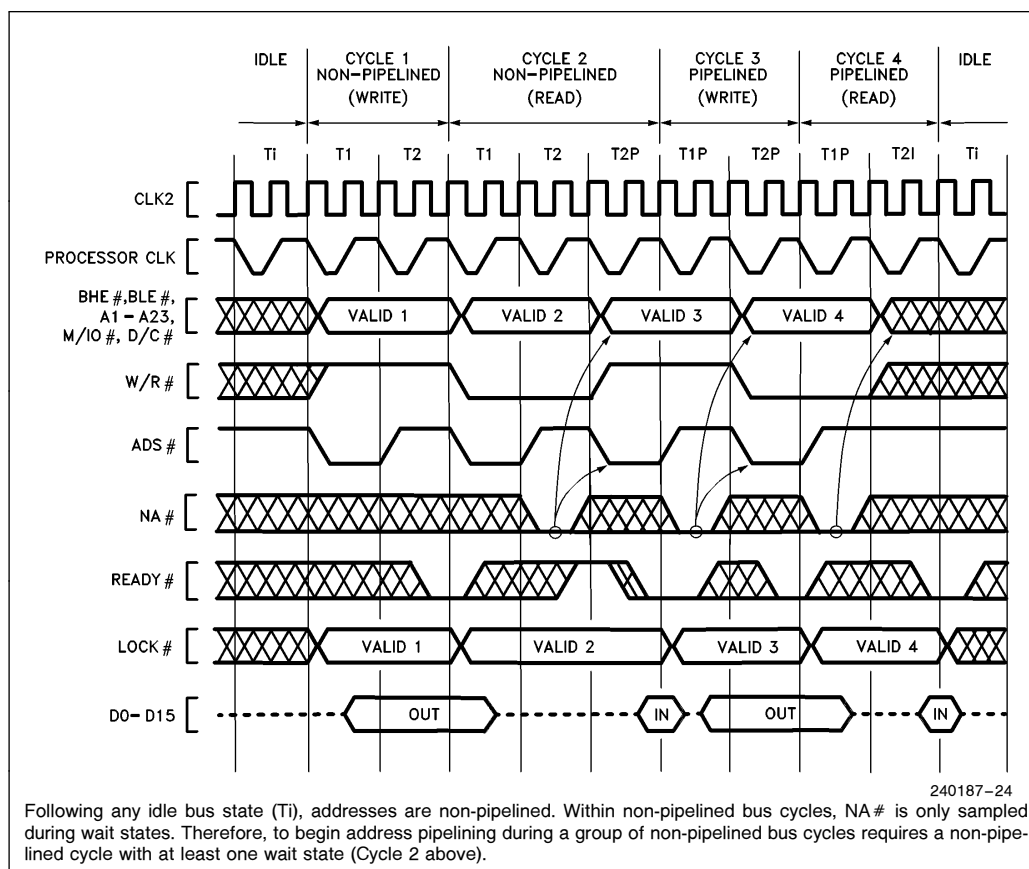
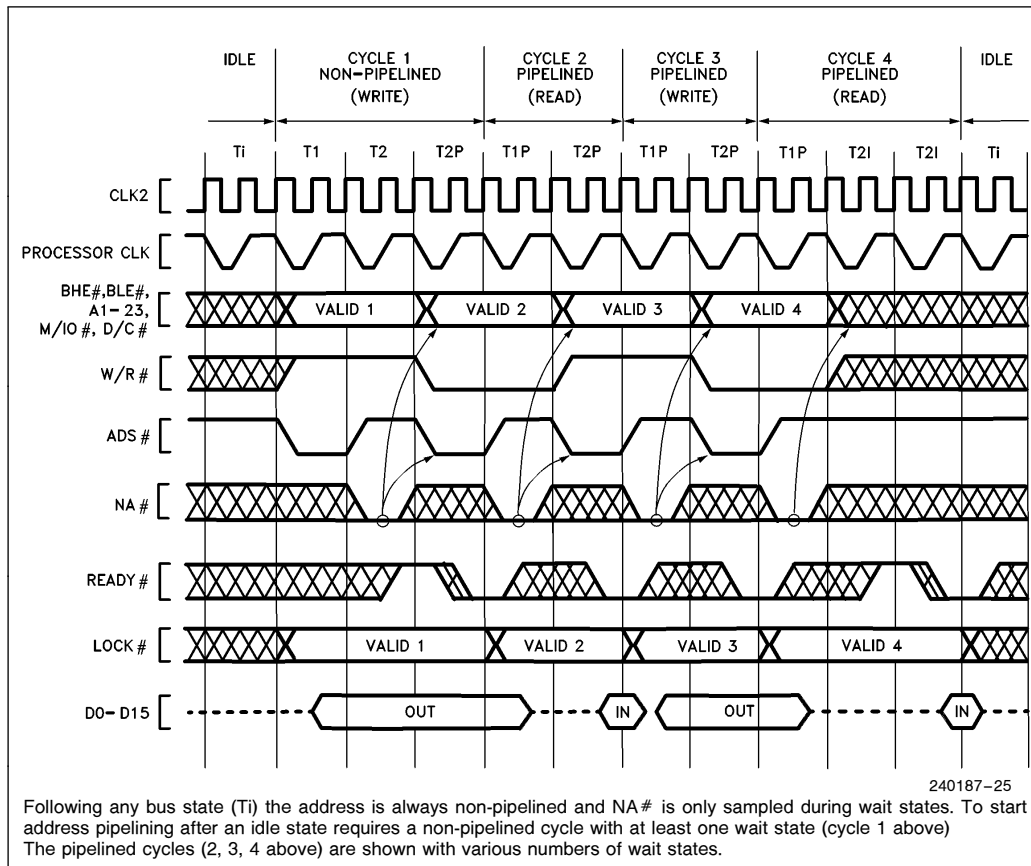
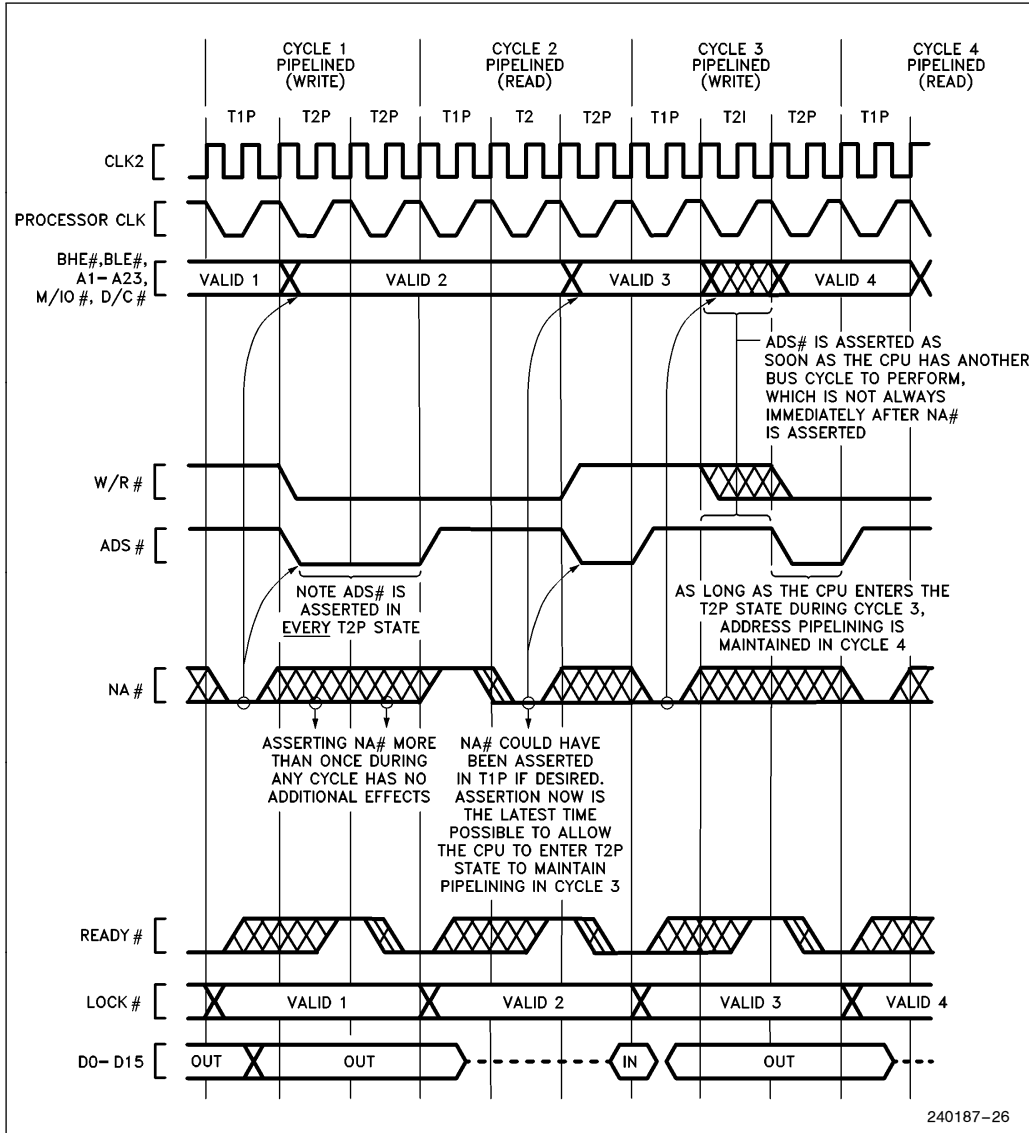

Figure 5.9. Transitioning to Pipelined Address During Burst of Bus Cycles
Figure 5.10. Fastest Transition to Pipelined Address Following Idle Bus State
Figure 5.11. Details of Address Pipelining During Cycles with Wait States
Once a bus cycle is in progress and the current address has been valid for at least one entire bus state, the NA# input is sampled at the end of every phase one until the bus cycle is acknowledged. During non-pipelined bus cycles NA# is sampled at the end of phase one in every T2. An example is Cycle 2 in Figure 5.9, during which NA# is sampled at the end of phase one of every T2 (it was asserted once during the first T2 and has no further effect during that bus cycle).
1. The next address may appear as early as the bus state after NA# was sampled active (see Figures 5.9 or 5.10). In that case, state T2P is entered immediately. However, when there is not an internal bus request already pending, the next address will not be available immediately after NA# is asserted and T2I is entered instead of T2P (see Figure 5.11 Cycle 3). Provided the current bus cycle isn't yet acknowledged by READY# asserted, T2P will be entered as soon as the Intel386 SX Microprocessor does drive the next address. External hardware should therefore observe the ADS# output as confirmation the next address is actually being driven on the bus.
2. Any address which is validated by a pulse on the ADS# output will remain stable on the address pins for at least two processor clock periods. The Intel386 SX Microprocessor cannot produce a new address more frequently than every two processor clock periods (see Figures 5.9, 5.10, and 5.11).
3. Only the address and bus cycle definition of the very next bus cycle is available. The pipelining capability cannot look further than one bus cycle ahead (see Figure 5.11 Cycle 1).
The transition to pipelined address is shown functionally by Figure 5.10 Cycle 1. Note that Cycle 1 is used to transition into pipelined address timing for the subsequent Cycles 2, 3 and 4, which are pipelined. The $NA\#$ input is asserted at the appropriate time to select address pipelining for Cycles 2, 3 and 4.
Once a bus cycle is in progress and the current address has been valid for one entire bus state, the $NA\#$ input is sampled at the end of every phase one until the bus cycle is acknowledged. Sampling begins in T2 during Cycle 1 in Figure 5.10. Once $NA\#$ is sampled active during the current cycle, the Intel386 SX Microprocessor is free to drive a new address and bus cycle definition on the bus as early as the next bus state. In Figure 5.10 Cycle 1 for example, the next address is driven during state T2P. Thus Cycle 1 makes the transition to pipelined address timing, since it begins with T1 but ends with T2P. Because the address for Cycle 2 is available before Cycle 2 begins, Cycle 2 is called a pipelined
Examples of transition bus cycles are Figure 5.10 Cycle 1 and Figure 5.9 Cycle 2. Figure 5.10 shows transition during the very first cycle after an idle bus state, which is the fastest possible transition into address pipelining. Figure 5.9 Cycle 2 shows a transition cycle occurring during a burst of bus cycles. In any case, a transition cycle is the same whenever it occurs: it consists at least of T1, T2 ($NA\#$ is asserted at that time), and T2P (provided the Intel386 SX Microprocessor has an internal bus request already pending, which it almost always has). T2P states are repeated if wait states are added to the cycle.
Note that only three states (T1, T2 and T2P) are required in a bus cycle performing a **transition** from non-pipelined address into pipelined address timing, for example Figure 5.10 Cycle 1. Figure 5.10 Cycles 2, 3 and 4 show that address pipelining can be maintained with two-state bus cycles consisting only of T1P and T2P.
Once a pipelined bus cycle is in progress, pipelined timing is maintained for the next cycle by asserting $NA\#$ and detecting that the Intel386 SX Microprocessor enters T2P during the current bus cycle. The current bus cycle must end in state T2P for pipelining to be maintained in the next cycle. T2P is identified by the assertion of $ADS\#$. Figures 5.9 and 5.10 however, each show pipelining ending after Cycle 4 because Cycle 4 ends in T2I. This indicates the Intel386 SX Microprocessor didn't have an internal bus request prior to the acknowledgement of Cycle 4. If a cycle ends with a T2 or T2I, the next cycle will not be pipelined.